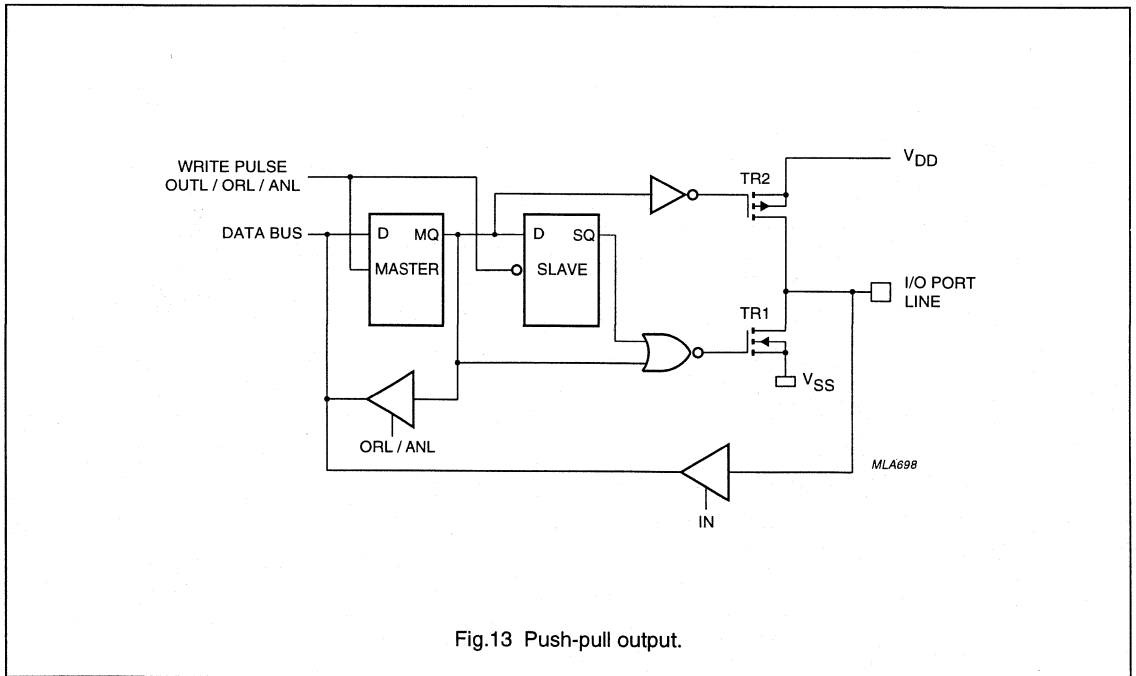

Fig.13 Push-pull output.
3. Push-pull; drive capability of the output will be 5 mA (typ.) at $V_{DD} = 3$ V in both polarities. Since short circuit currents would flow during input, push-pull lines must only be used as outputs (see Fig.13).
configuration 3	push-pull output (see Fig.13)